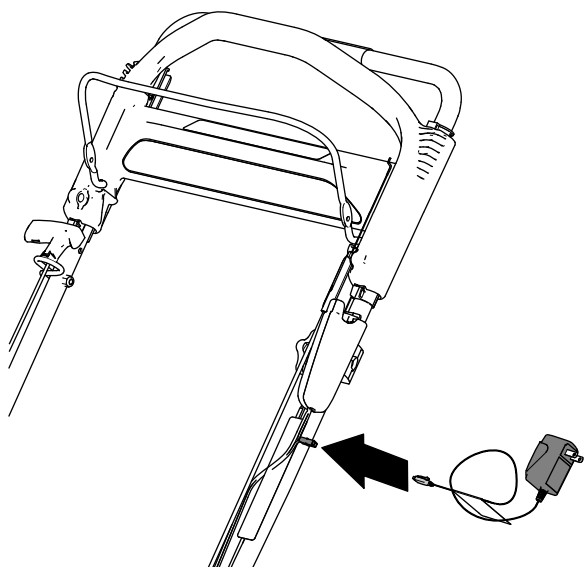

Figure 30
1. Connect the charger to the wire harness located below the electric-start button (Figure 30).